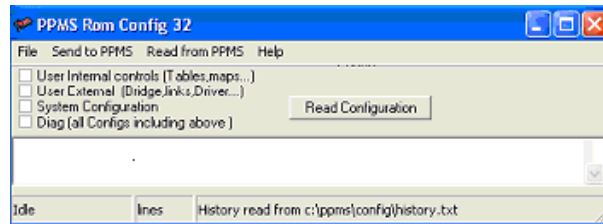

Figure 18. PPMS Rom Config 32 dialog box
3. Open the **PPMS Rom Config 32** dialog (Figure 18) by clicking on Romcfg32.exe, located in C:\QdPpms\Tools.